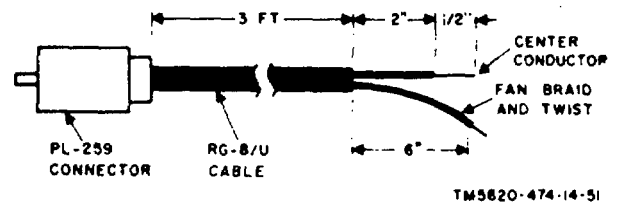

Figure 51. Test cable No. 6, construction details.
f. *Test Cable No. 6* (fig. 51). Test cable No. 6 is used to connect the output of the transmitter to the input of the AN/URM120 when transmitter output power is tested. One cable is required.